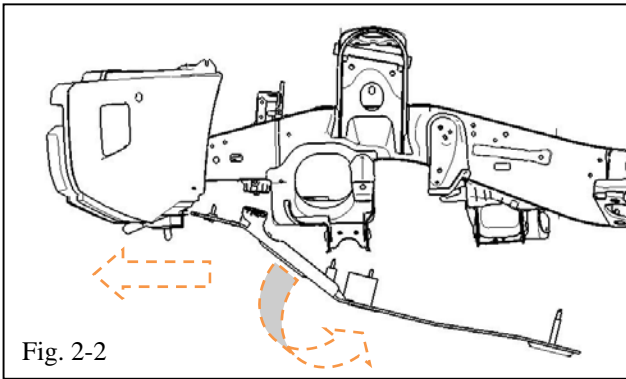

Fig. 2-2
- (d) Push the plate forward and rotate the rear section up, ensuring the rear fasteners go through the holes in the center member bottom and the top holes (Fig 2-2).